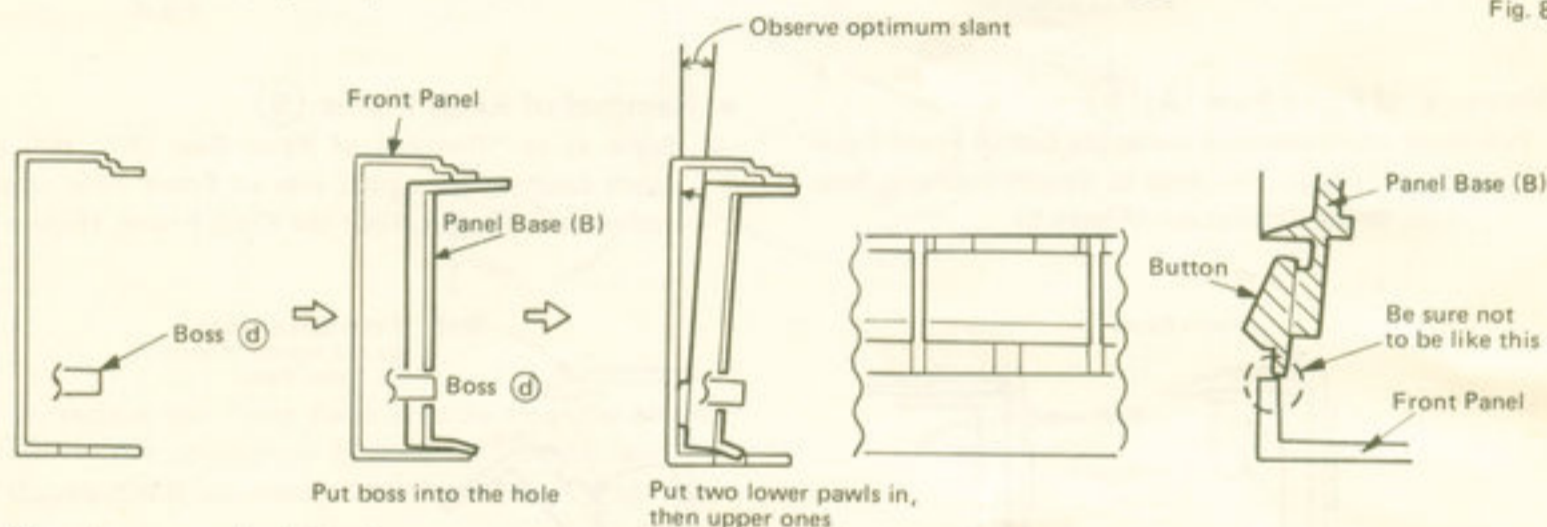

Fig. 9
- 2 Mounting hints. (Figure 9)